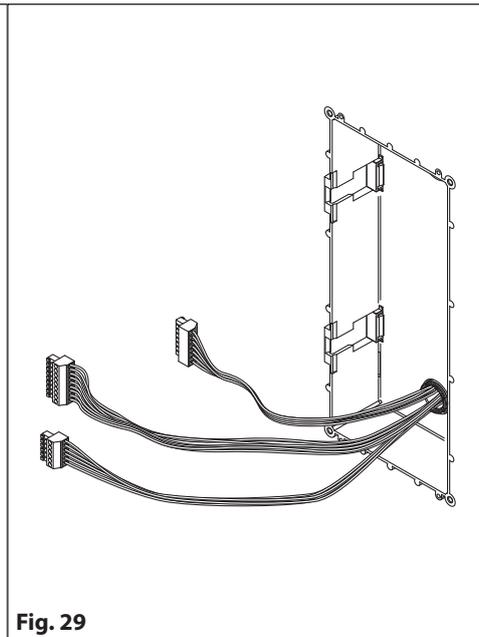
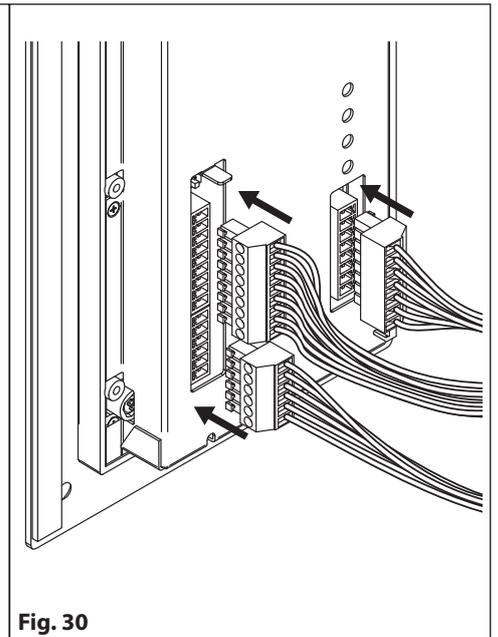

Fig. 29
Fig. 30
2. Make all the connections on the removable terminal blocks (**Fig. 29**), then plug back into the panel (**Fig. 30**), setup the dip-switches as per provided connection diagram or instruction sheet, then power up the system and check that it works correctly;